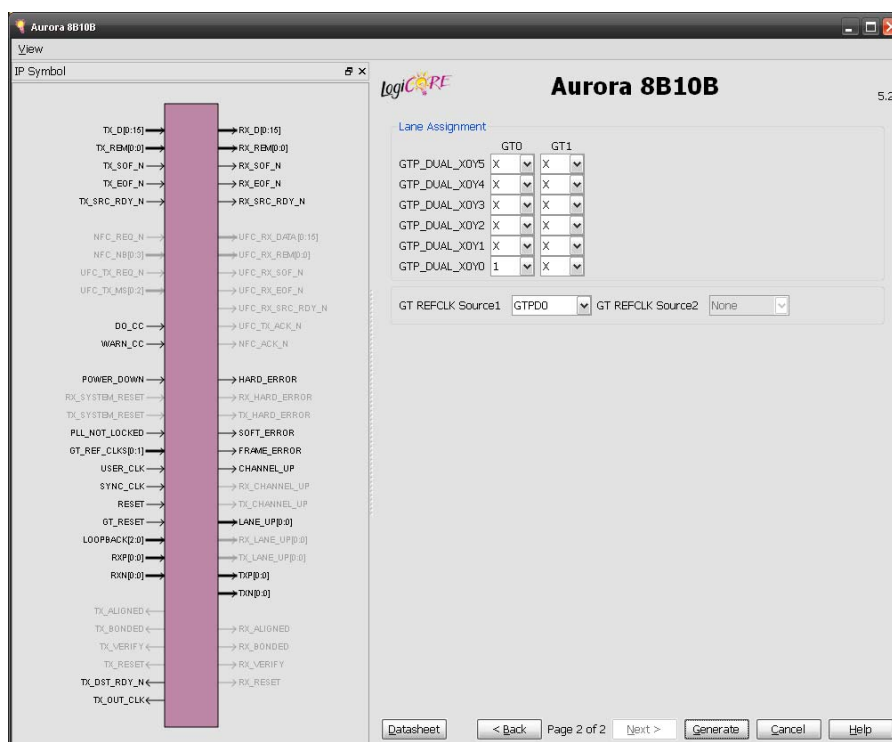

Figure 3-2: Second GUI Page for Virtex-5 FPGA RocketIO GTP Transceivers
- Figure 3-2, page 28 for Virtex®-5 FPGA RocketIO™ GTP transceivers